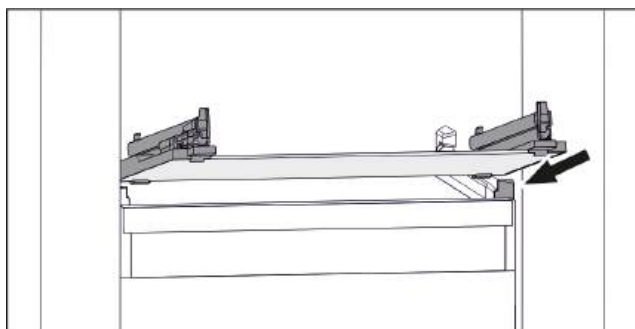

Fig. 112 Example illustration of glass shelf
- Position glass shelf at an angle behind the stoppers. (see Fig. 112)